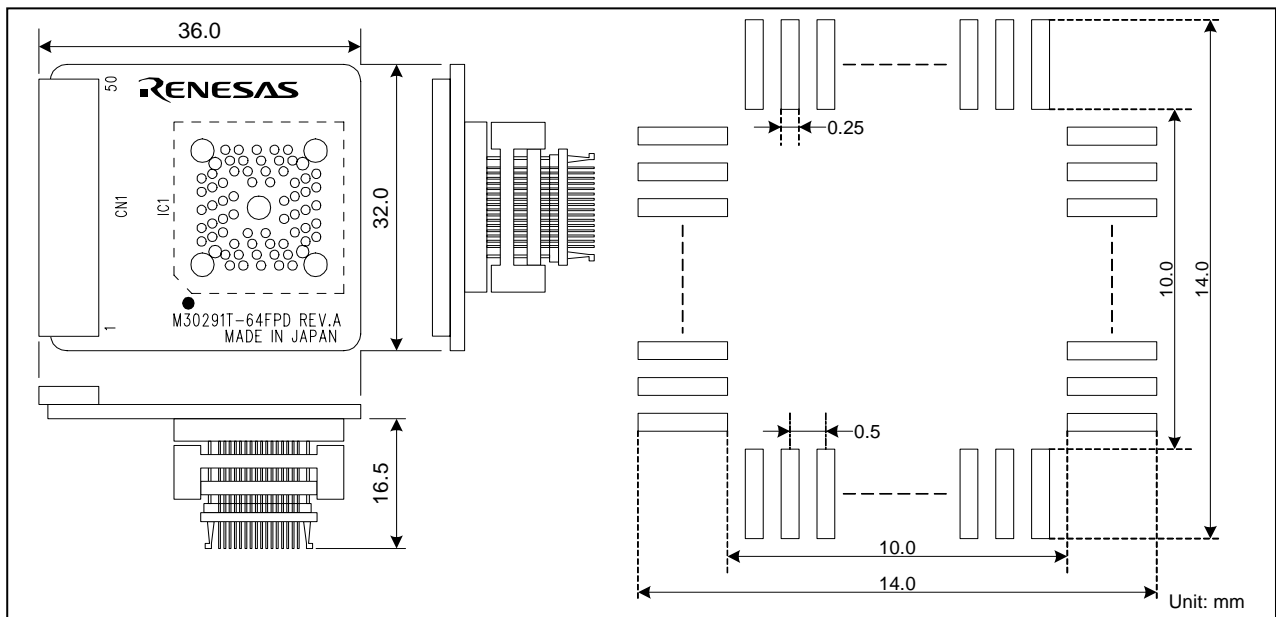

Figure 4 External dimensions and a sample foot pattern of the M30291T-64FPD
6. External Dimensions and a Sample Foot Pattern (See Figure 4)